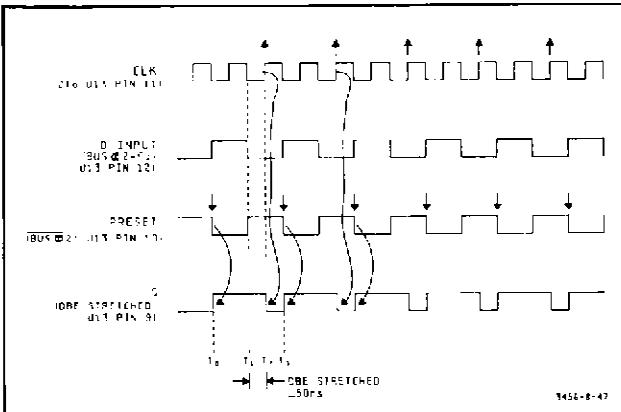
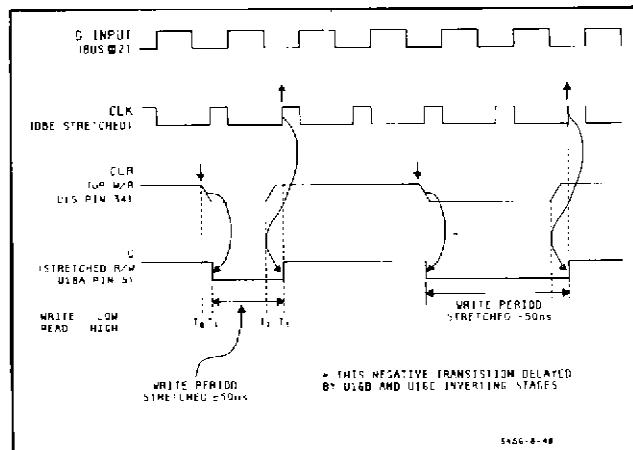
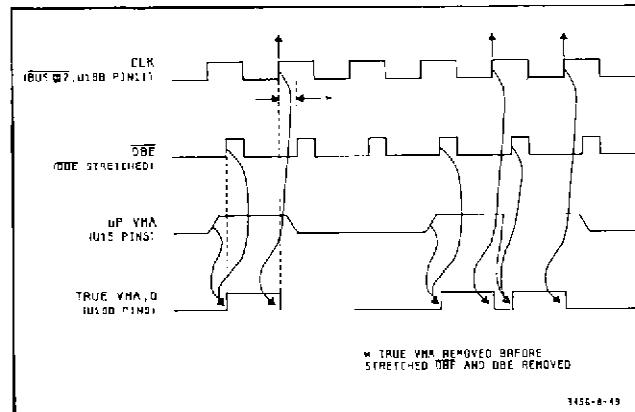
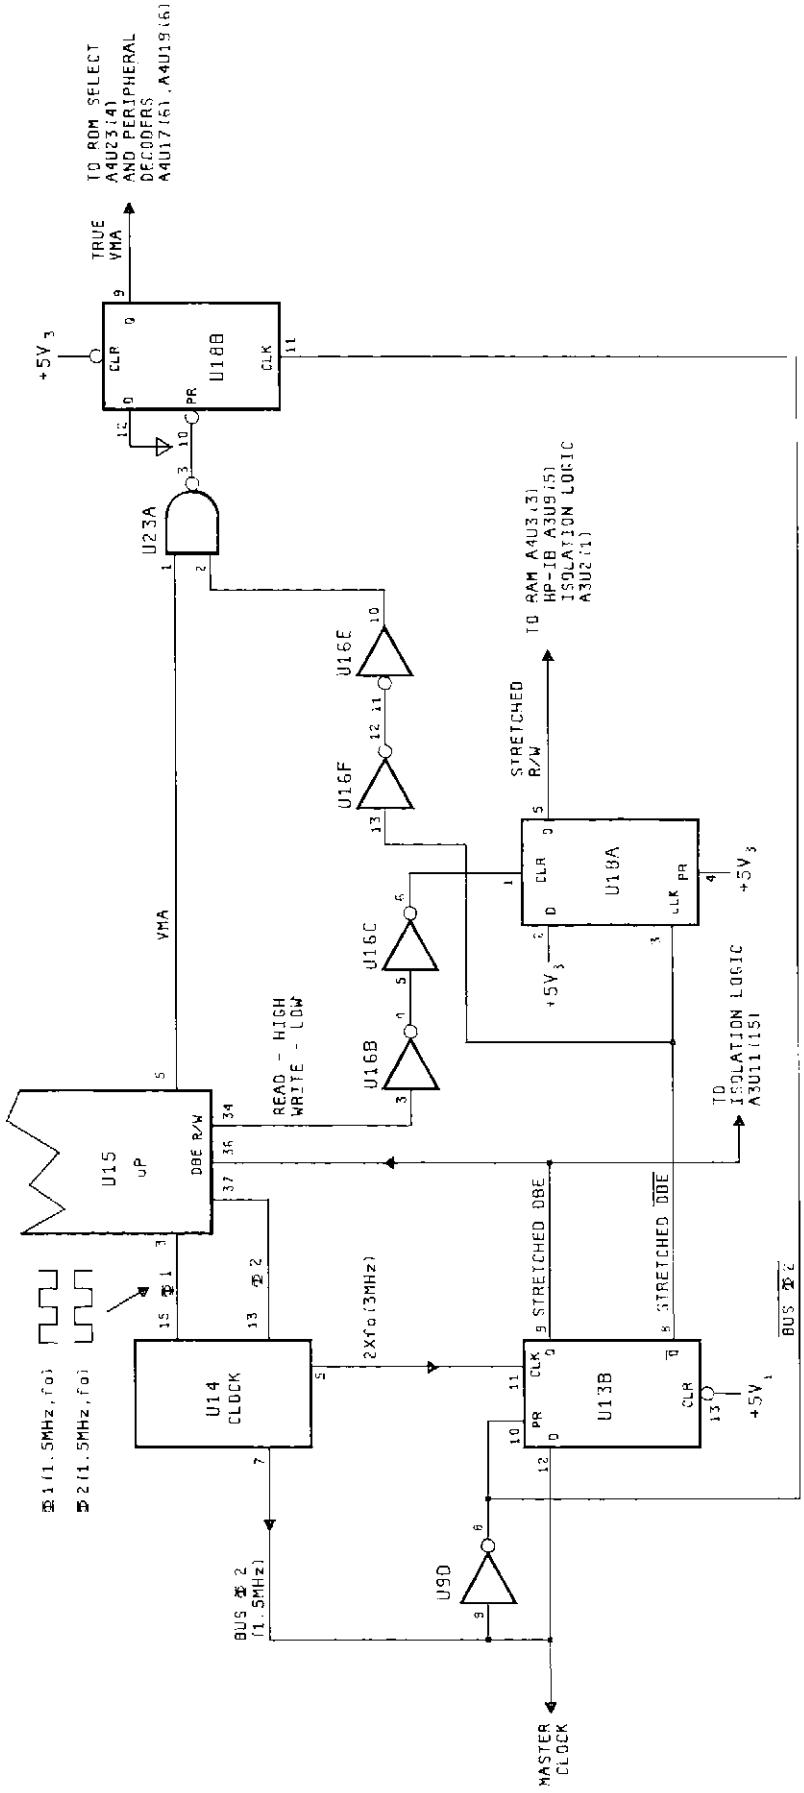

Figure 8-47. DBE Stretcher, Timing Diagram.
Figure 8-48. Write Going To Read Stretcher, Timing Diagram.
Figure 8-49. True VMA Generator, Timing Diagram.
Figure 8-50. Speed Compensating Circuits.
8-242. DBE Stretcher. The DBE input to the μ P is *normally* the phase 2 (ϕ_2) clock. The Bus ϕ_2 (1.5 MHz, f_0) and $2 \times f_0$ outputs from U14, pins 7 and 5 respectively, (see Figure 8-50) are used in conjunction with U13b to generate a Stretched DBE. The Stretched DBE holds the data on the line longer ($\cong 50$ ns longer than the normal 10 ns) to assure reliable data transfer.
8-243. Refer to Figure 8-47 (DBE Stretcher, Timing Diagram) and to Figure 8-50 (Speed Compensating Circuits) for the following discussion. At T_0 time the preset input to U13b (neg. transition) sets the output (Q) of
8-244. Write Going To Read Stretcher. Refer to Figure 8-48 (Write Going To Read Stretcher, Timing Diagram) and to Figure 8-50 (Speed Compensating Circuits) for the following discussion. At T_0 time, the R/W line (U15, pin 34) goes low for a Write cycle. This negative transition is delayed by inverter stages U16b and U16c before it is applied to the clear input of U18a. This ac-
8-245. True VMA Generator. Refer to Figure 8-49 (True VMA Generator, Timing Diagram) and to figure 8-50 (Speed Compensating Circuits) for the following discussion. The VMA output from the μ P has a 50-80 ns wide noise spike that could cause circuit problems. A regenerated VMA (True VMA) is delayed to eliminate the noise spike and shortened to prevent a potential racing problem. Racing is avoided by removing the peripheral select before the stretched DBE/ \overline{DBE} changes state. This allows extra time for the read, write, and data hold.